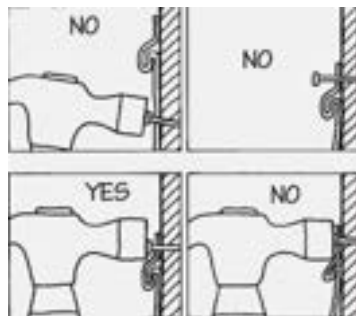

Figure 11-16. Siding Nail Head Gap.
1. Vinyl siding expands and contracts due to temperature changes. Never drive nails tight. The siding panels must hang on the nails and be permitted to move from side to side. Leave a $\frac{1}{8}$ " gap (the thickness of a nickel) between the nail head and the siding slot (see Figure 11-16).